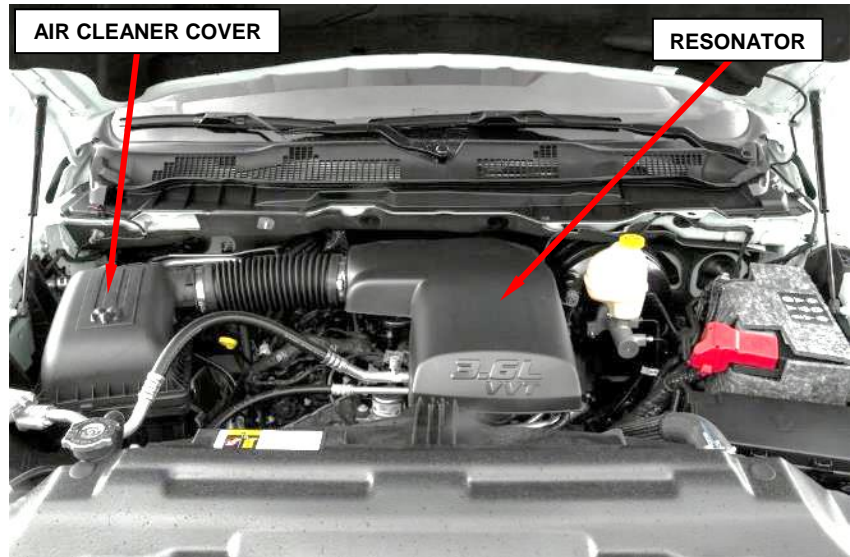

Figure 4 – 3.6L Resonator and Air Cleaner Cover
- c. Release the air cleaner cover latches (Figure 4).
- d. Remove the air cleaner cover from the lower air cleaner housing (Figure 4).
- e. Pull the front of the resonator with air intake tube away from the throttle body while lifting from the rear of the resonator to separate from the ball stud mounts (Figure 4).